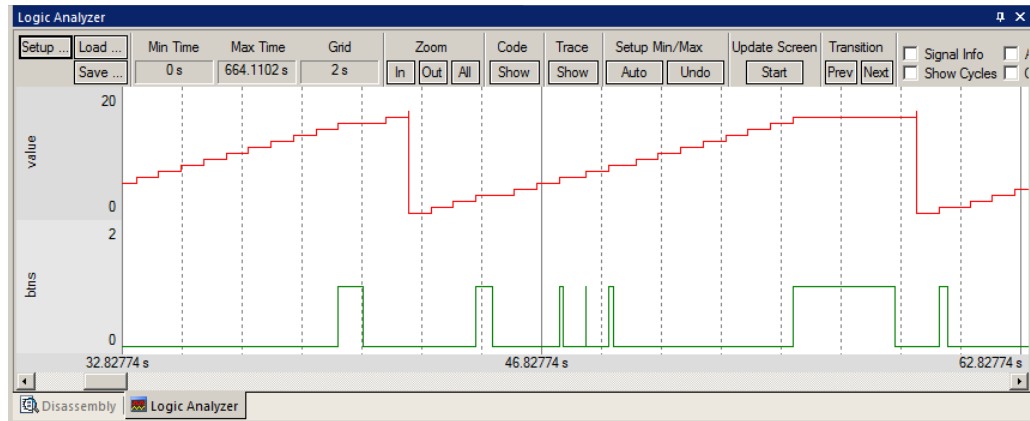

Figure 8. Logic Analyzer showing two variables.
7. Click on Run to run the program. In the Logic Analyzer window (Figure 8), click on Zoom Out until Grid is about 1 second. The variable value will increment to 0x10 (decimal 16) and then is set to 0.
8. Enter the static variable **btns** into the LA and set the Display Range Max: to 0x2. Click on RUN and press the User button and see the voltages in Figure 8.